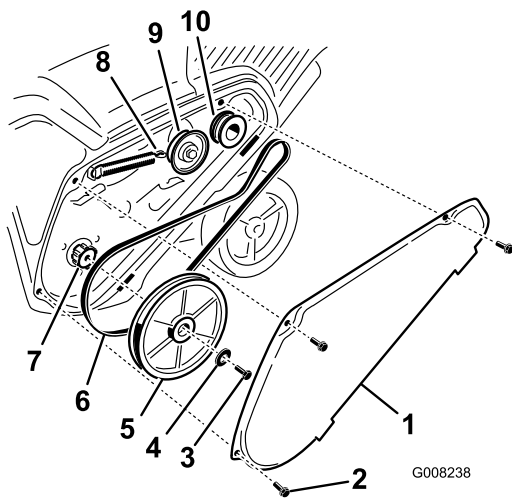

Figure 37
1. Remove the drive belt cover by removing the 3 bolts as shown in Figure 37.
- Unhook the brake spring from the idler arm to release the belt tension (Figure 37).
- Remove the screw and curved washer that holds the rotor pulley (Figure 37).
- Remove the rotor pulley and the drive belt (Figure 37).
Note: Route the new drive belt first around the engine pulley, then the idler pulley, and finally around the loose rotor pulley positioned just above the rotor shaft (Figure 37).
- Install the rotor pulley onto the rotor shaft (Figure 37).
- Install the curved washer and the rotor pulley bolt and tighten them securely (Figure 37).